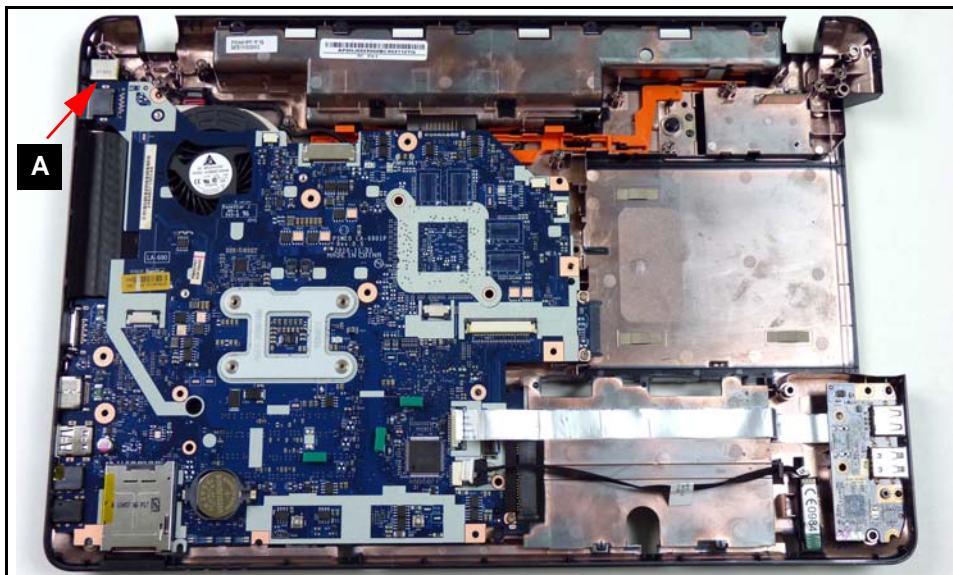

Figure 3-57. DC-IN Cable Removal
1. Locate DC-IN cable (A) on mainboard (Figure 3-57).
1. Install cable connector to lower cover (Figure 3-57).